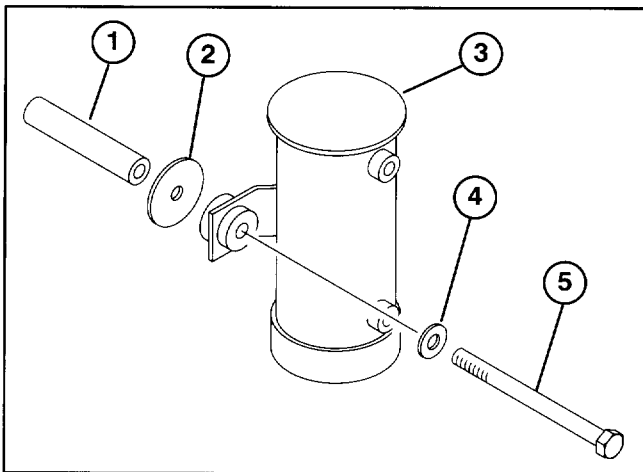

Figure 12
18. On gas models only, remount fuel pump to frame channel with (2) spacers, flat washers, previously removed washer and new 1/4–20 x 4" lg. capscrews, as shown in figure 12.